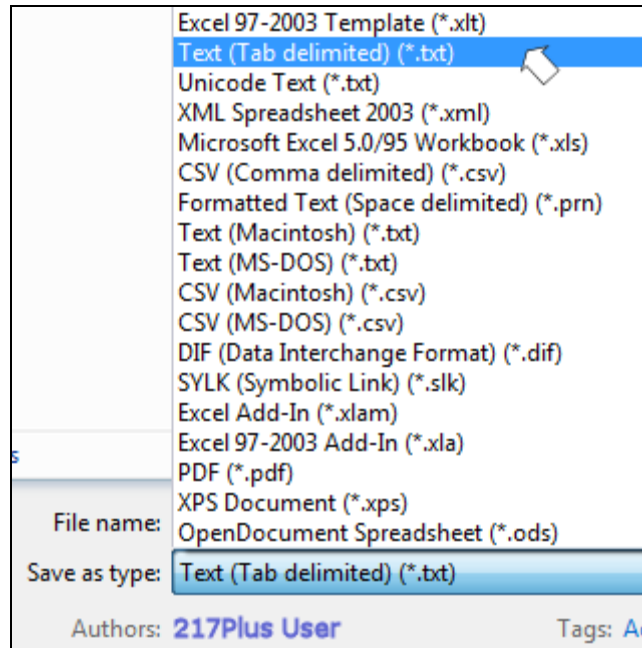

Figure 10. Save the Workbook as a Tab-Delimited Text File
24. Select **Save As, Other Formats**. In the **Save as type** box, select “**Text (Tab delimited).txt**” from the list, enter the desired file name, and save the file. This is illustrated in Figure 10.